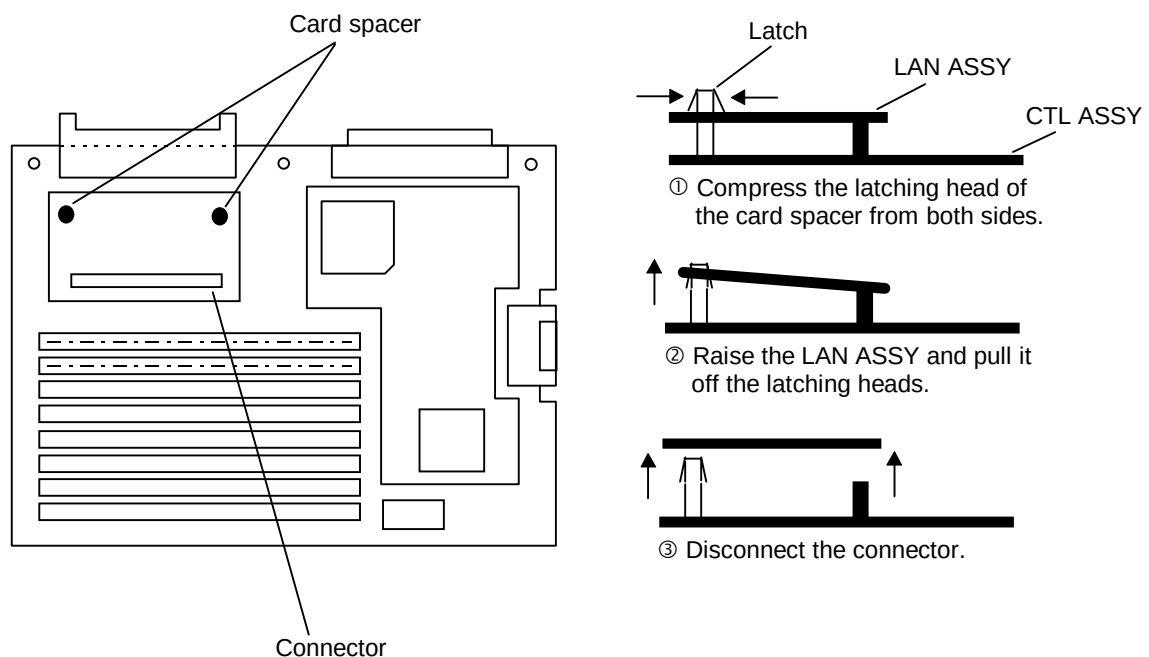

Figure 14.1 Replacing LAN ASSY (1)
② Open the rear cover 1 and rear cover 2, and remove CTL ASSY. (See RH-REP0325.)
③ Pinch the latching heads of card spacers with needle-nose pliers etc. , then pull the LAN ASSY up with care not to touch with surrounding parts. (See Figure 14.1.)